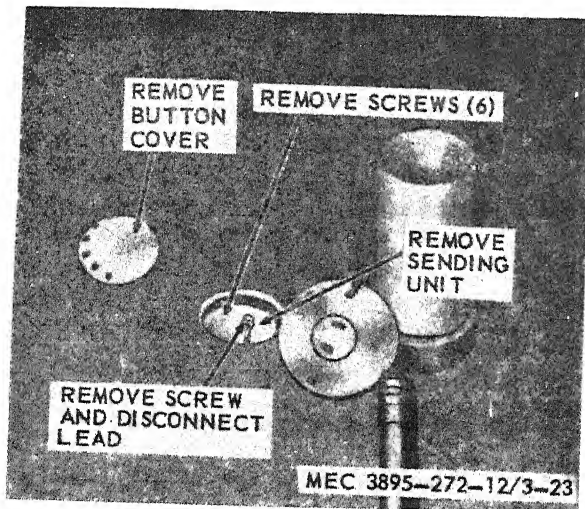

Figure 3-23. Fuel level sending unit, removal and installation.
*a. Removal.* Remove the fuel level sending unit as instructed on figure 3-23.
- (1) Clean the sending unit with an approved cleaning solvent.
- (2) Inspect the float for evidence of fuel soaking.
- (3) Inspect for poor electrical connections, damaged wiring, and such. Replace a defective sending unit.
*c. Installation.* Install the fuel level sending unit in reverse of the instructions on figure 3-23.